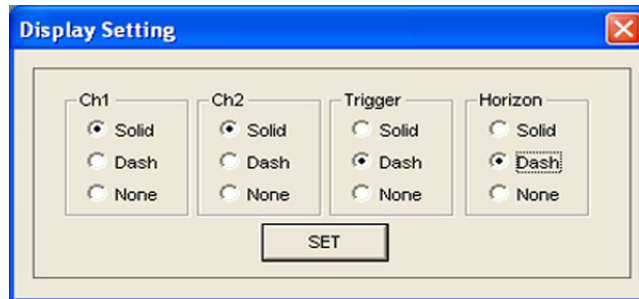
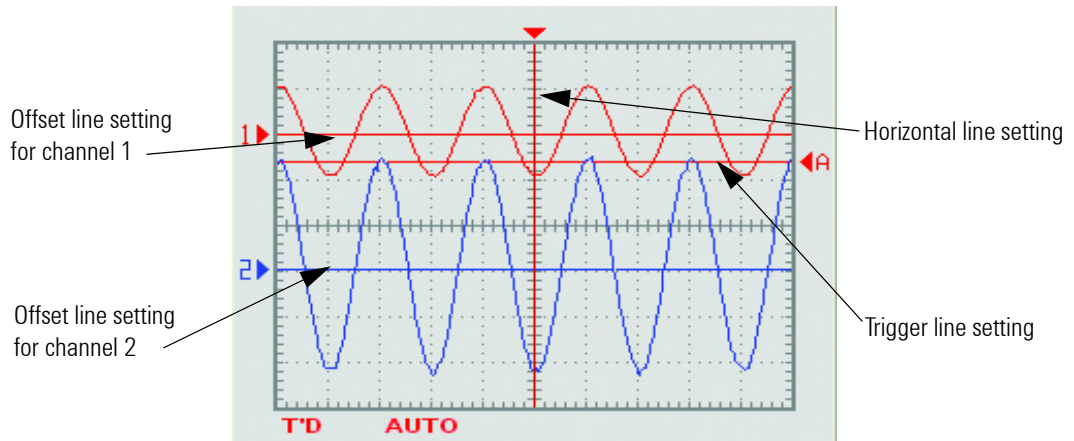

Figure 18 Waveform display setting
Figure 19 Scope display based on the setting shown in Figure 18
- 3 Figure 18 shows the waveform display setting dialog box. You can configure the graticule or grid line display, signal line display for channel 1 and channel 2, trigger line and horizontal line.
4 Figure 19 shows the scope display based on the setting done in Figure 18.